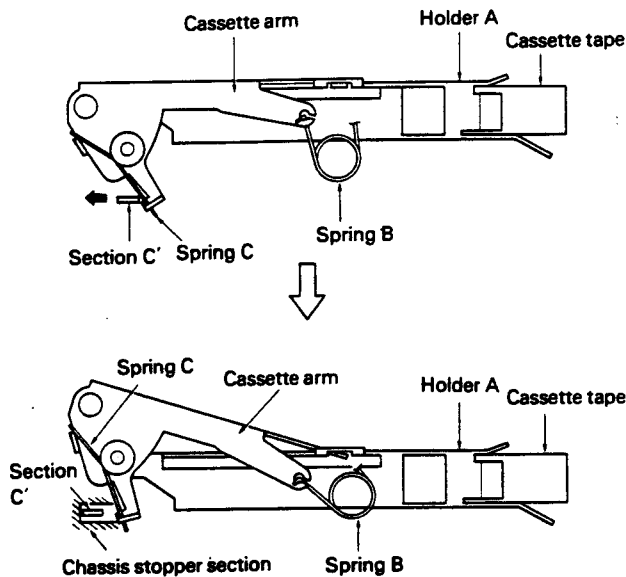

Fig. 14
6. As shown in Fig. 14, the "C'" unit of arm "C" connects to the cassette arm (which suspends the cassette tape) through spring "C". The arm "C" movement described above in paragraph five makes the "C'" unit move in the direction indicated by the arrow in Fig. 14. The cassette arm pushes down holder "A" by means of spring "B". The "C'" unit is released when holder "A" drops down.